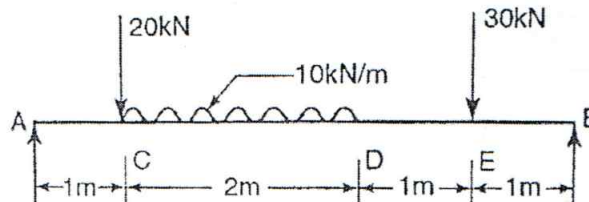

Figure Q5b
- b) For the beam loaded as shown in figure Q5b, use Macaulay's method to obtain deflection and slope in the beam. Also compute the deflection at point C if  $E = 200 \text{ GPa}$  and  $I = 60 \times 10^{-6} \text{ m}^4$ . 12